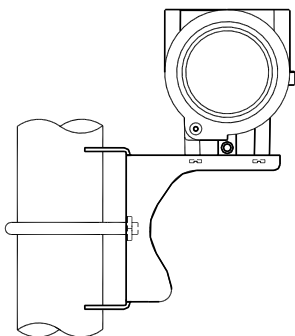

Figure 2.3 The installation of pipe mounting angle bracket-1
**The installation of pipe mounting angle bracket:** the typical installation as Figure 2.3, 2.4 shows. Fix NCS-IF105 converter in angle bracket using four bolts provided, and then fix the angle bracket on the horizontal pipe in  $\Phi 50\text{mm}$  around through the U-shape bolt provided.